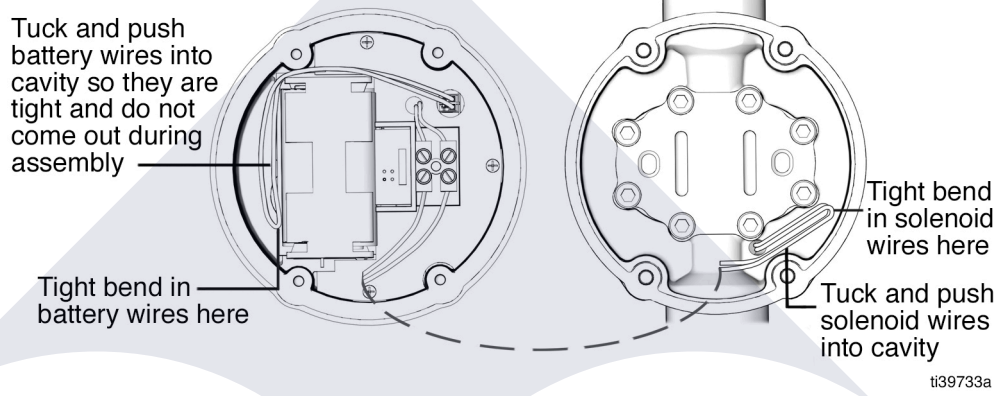

FIG. 9
2. Remove the impact guard (37).
3. Remove the four (4) screws (9) from the meter housing (10), and remove the electronics bezel (1).
4. Locate the battery pack and remove the batteries (36).
6. Insert new batteries (36) as shown on the battery holder (negative and positive positions). Press down firmly.
8. Position the wires as shown in FIG. 9, to minimize pinching the wires between the meter housing and the bezel housing.
9. Inspect the bezel seal (2) for damage. Replace, if needed.
10. Place the electronics bezel (1) onto the meter housing (10).
11. Reinstall the four (4) screws (9), tightening the screws in a diagonal pattern to 15 - 25 in-lb (1.7 - 2.8 N•m).